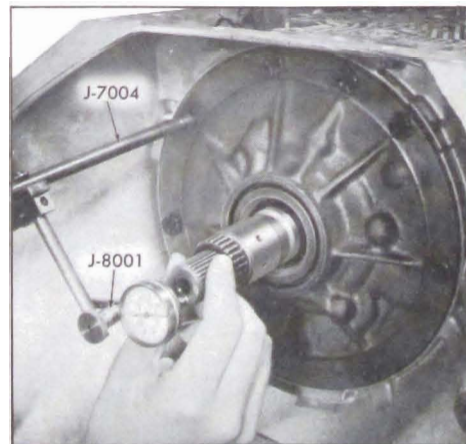

Figure 5-726
24. Check front unit end play as follows: See Figure 5-726.